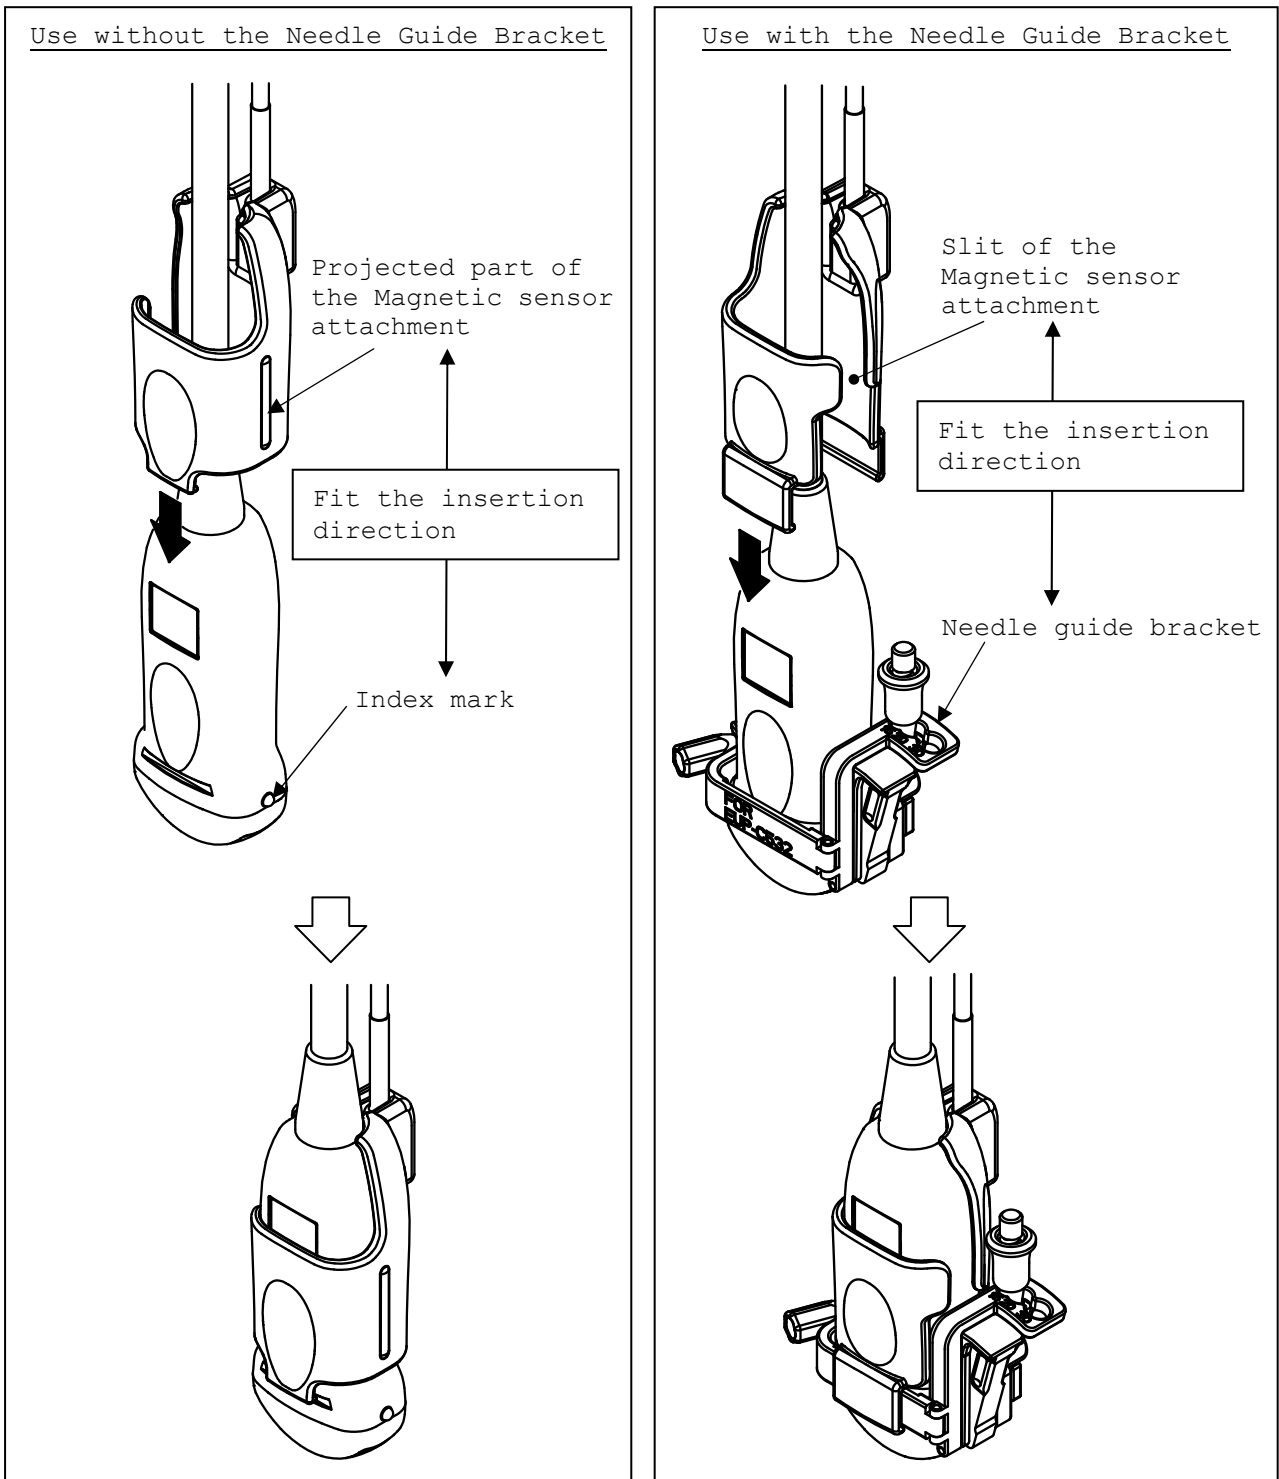

Fig.6 How to attach the Magnetic sensor attachment
c) Attach the Magnetic sensor attachment to the probe with the correct direction as shown in Fig.6.